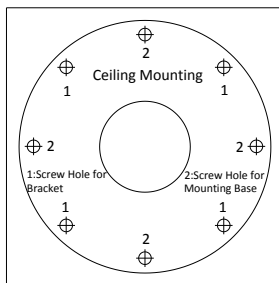

Figure 2-4 Drilling Holes in the Wall
2. Drill screw holes in the wall according to the number one holes of the drill template. Refer to the Figure 2-4.
2. Drill holes in the wall according to the number two holes of the drill template. Refer to the Figure 2-4.